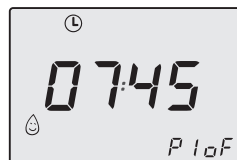

Fig. 2.30
Press key 11 or 12 to select the 4 programmes (P1÷P4) with the related on and off times (P1 on - P1 off, ..., P4 on - P4 off), with minimum intervals of 15 minutes (Fig. 2.30).